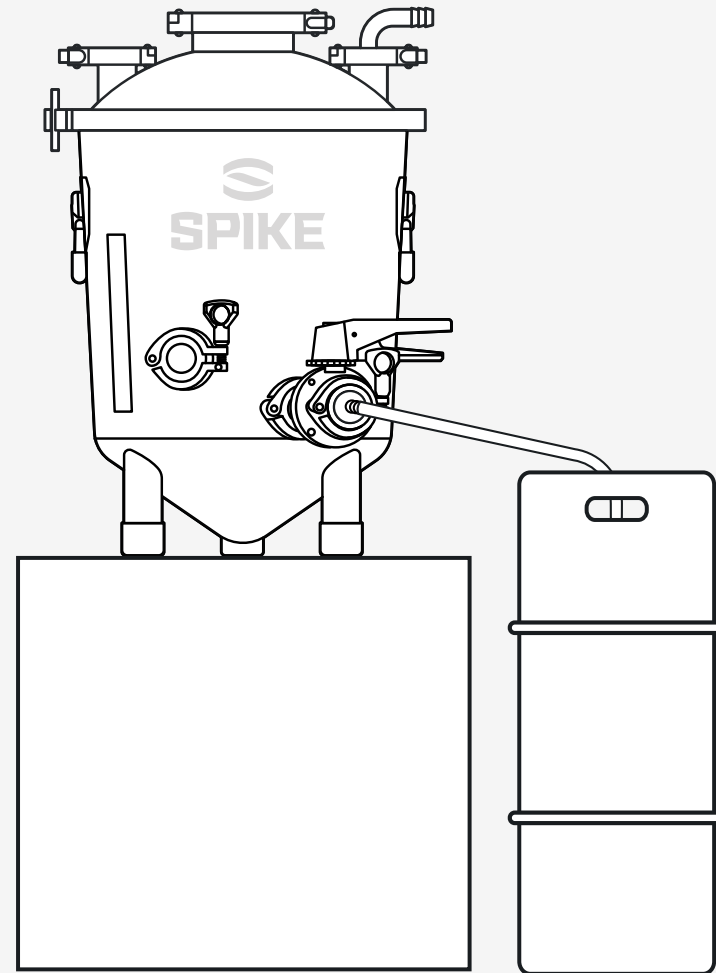

Figure 8
2. Attach tubing from your racking port to into you keg. Be sure that the bottom of the tubing only goes to the top of the keg, otherwise the flow will stop when the beer is higher in the keg than the tubing. (see **Figure 8**)